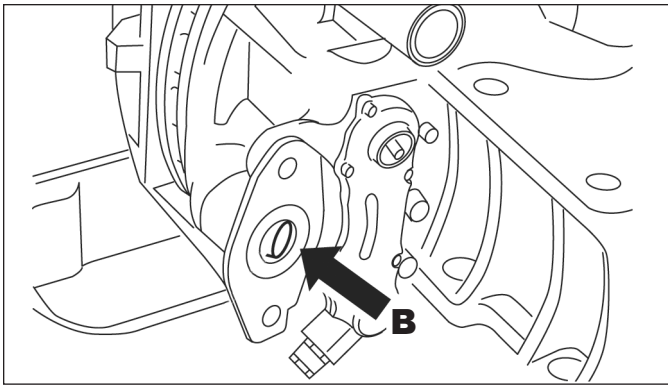

Figure 11 – Spring Brake Installation
1. Ensure the spring brake chamber mounting area is clean and free of any debris. (See B in Figure 11).